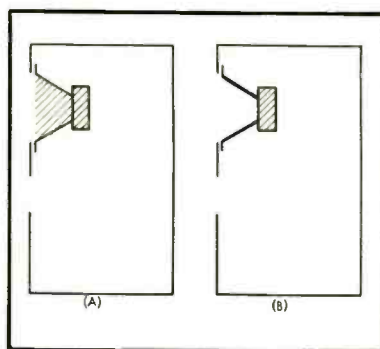

Fig. 6. Effective volume of loudspeaker unit.
Prior literature is also quite unanimous and apparently in error about the correction to be made for the volume occupied by the speaker unit, specifying that the effective volume of the speaker unit is that shown in solid at (A) in *Fig. 6*. Once again some preliminary theorizing suggested that the effective volume of a
The effective volume of the speaker determined by these two methods differed from an estimate of the volume of the iron parts, as shown at (B) in Fig. 6, by less than 3 per cent and bore no relation to the volume enclosed by the speaker outline.